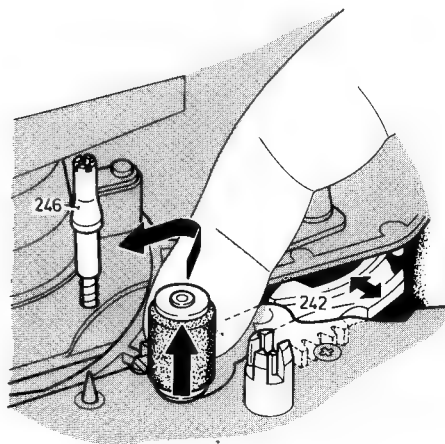

Fig. 1-14
- Quickly slide the pressure roller backwards and then to the left, lifting the left-hand slide until the pressure roller is past the lug (Fig. 1-14).